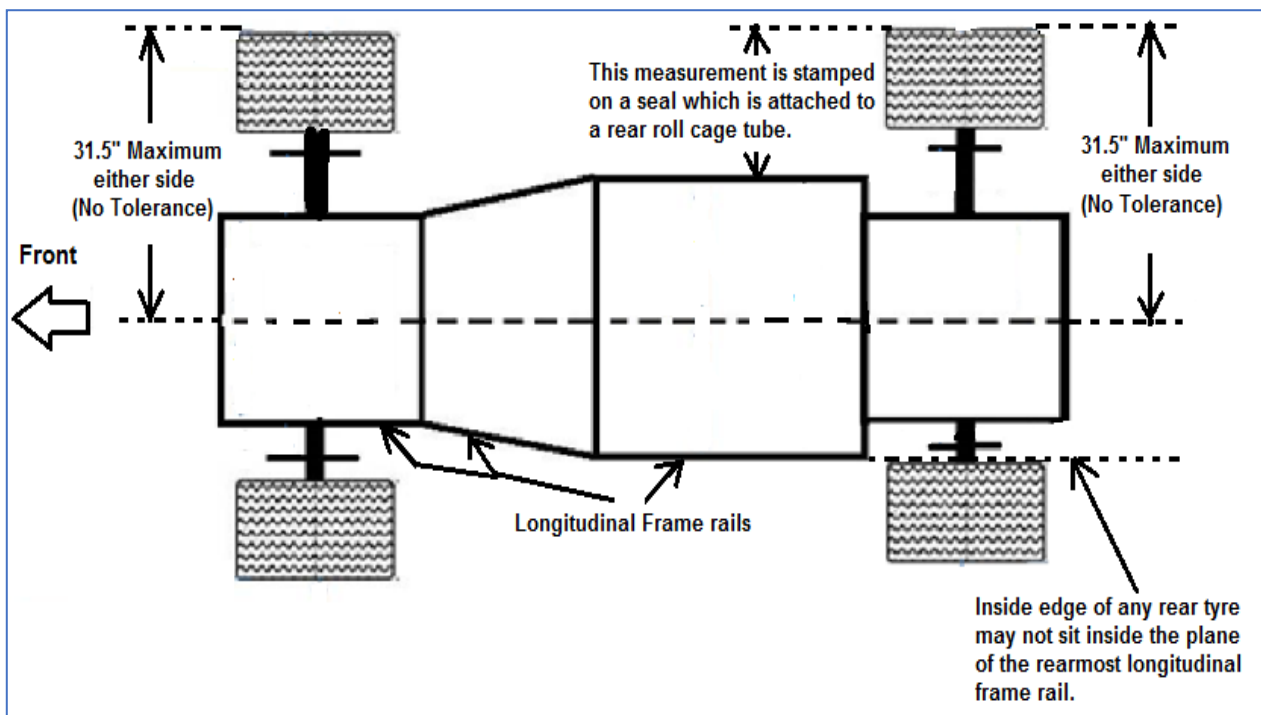

Figure 18
25.8 Maximum track offset. The total track width may not exceed 60". The outer most edge of any front or rear tyre may not protrude more than 31.5" out from the centreline of the chassis frame. No inside edge of any rear tyre is permitted to sit inside the outer edge of the widest point of the main frame rail (*Figure 18*).
As part of the Daylighting procedure and to simplify at track measuring, each car will have a seal attached to the right hand rear roll cage tube that is stamped with the maximum allowable measurement from the outside of the rear most point of the frame rail to the outside of the rear tyre (*Figure 18*).